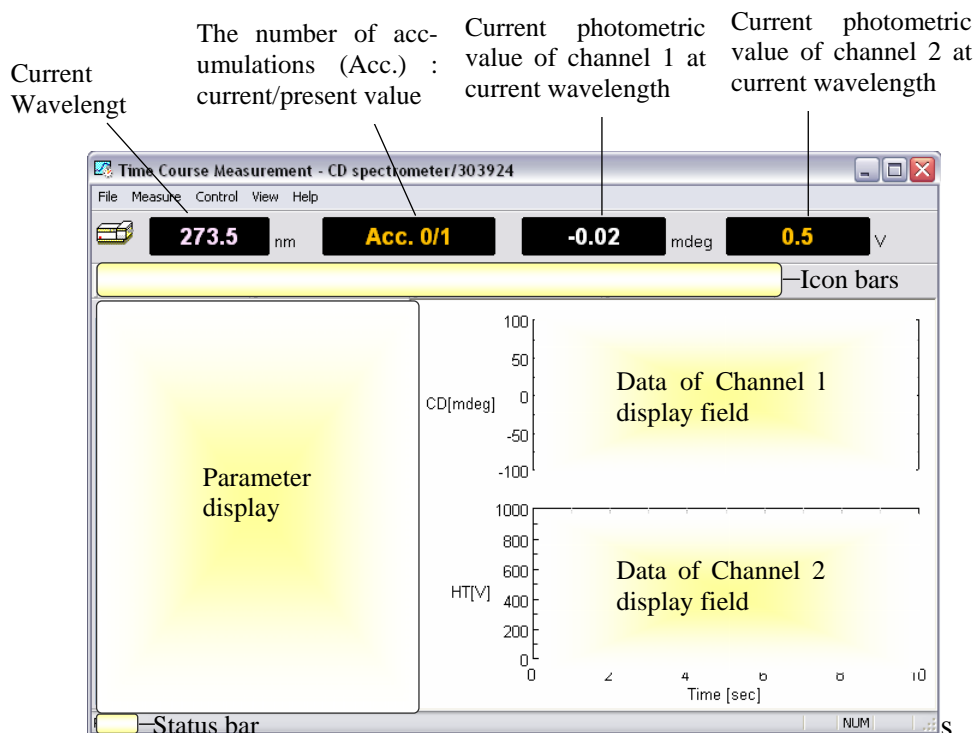

Figure. 5.1 [Time Course Measurement] window
*Note (1): If over-limitation value is remarked, the error message is displayed*
*Note (2): The over-accuracy values of [Band Width], [Slit Width], and [Wavelength] are ignored and acceptable values are shown on the comment and/or graph display field of Fig. 5.1.*
*Note (3): The external input signal is acquired through "EXT 1" and "EXT 2" terminals on the amplifier rear panel. The input range is -1 to +1 V. Output signal (DCV) can be acquired from an external device such as thermostatic cell holder or pH meter.*